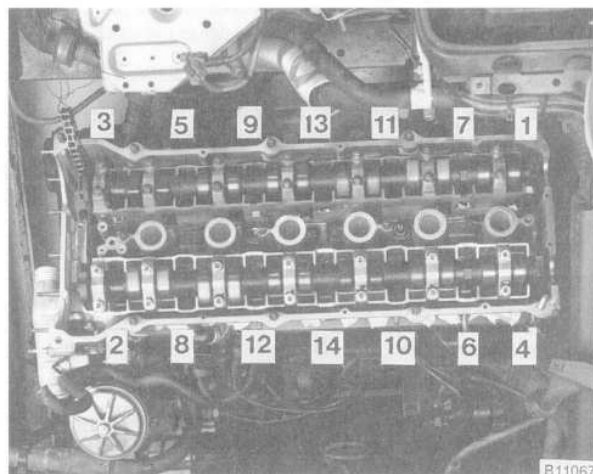

Fig. 26. Cylinder head bolt loosening sequence.
37. Using BMW special tool no. 11 2 250 or an equivalent, loosen the cylinder head bolts in several stages in the sequence shown in Fig. 26. Discard the head bolts.